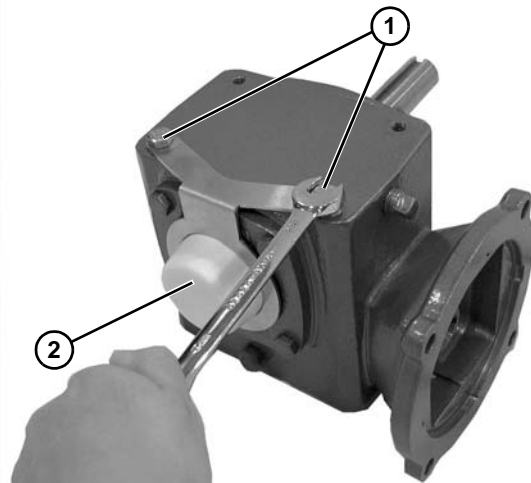

Figure 22
6. Remove two bolts (**Figure 22, item 1**) and gear reducer output shaft cover and bracket (**Figure 22, item 2**).